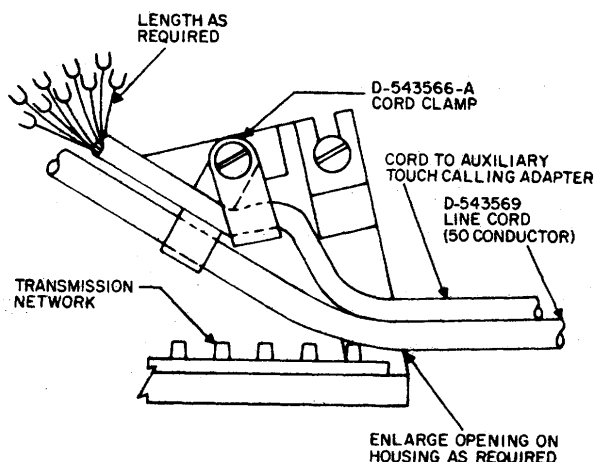
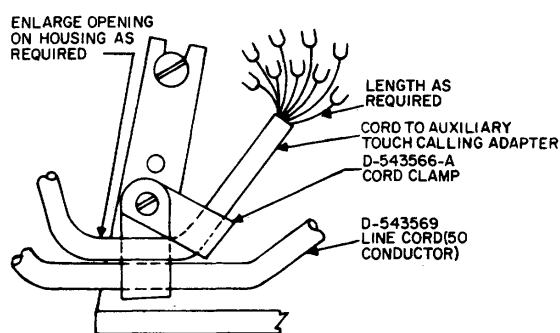

Figure 12. Routing and Securing Cord from Auxiliary Touch Calling Adapter to Type 186 (Desk) Telephone.
Figure 13. Routing and Securing Cord from Auxiliary Touch Calling Adapter to Type 186 (Wall) Telephone.
- (a) Route and secure the adapter's cord to the Type 186 desk (Figure 12) or wall (Figure 13) Telephone Set.